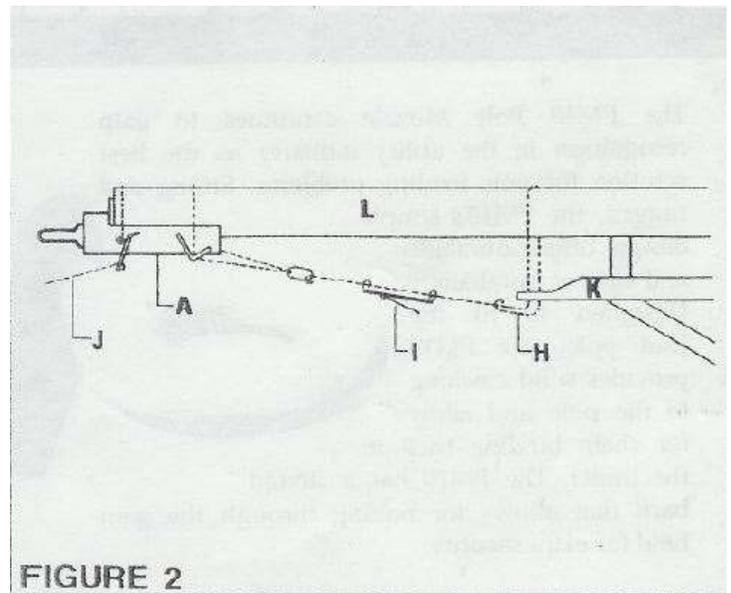

FIGURE 2
In Figure 2, illustration shows how to rig the muzzle and lead pole assembly to the pole trailer. After the lead pole has been secured and bounded on the trailer (K), hook up one end of a chain (H) to the choker ring (F) and other end into the pintle eye of the pole trailer, up and over the pole and down back into the eye and hook back to the chain. Next step is to attach an over-center load binder (I) to the chain (H) and tighten until the lead pole is secured. Hook up towing vehicle and attach safety chains to the pole muzzle (G). Proceed with loading and securing the remaining poles if any.